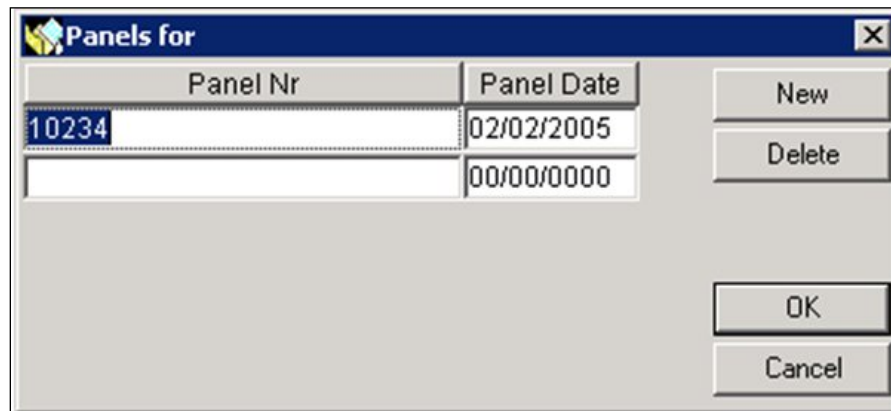

Figure 6-101: Panel Dialog Box
- g. Click the NEW button. A blank row is displayed (Figure 6-101).